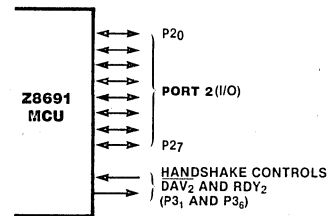

Figure 10. Port 2
**Port 2** bits can be programmed independently as input or output (Figure 10). This port is always available for I/O operations. In addition, Port 2 can be configured to provide open-drain outputs.